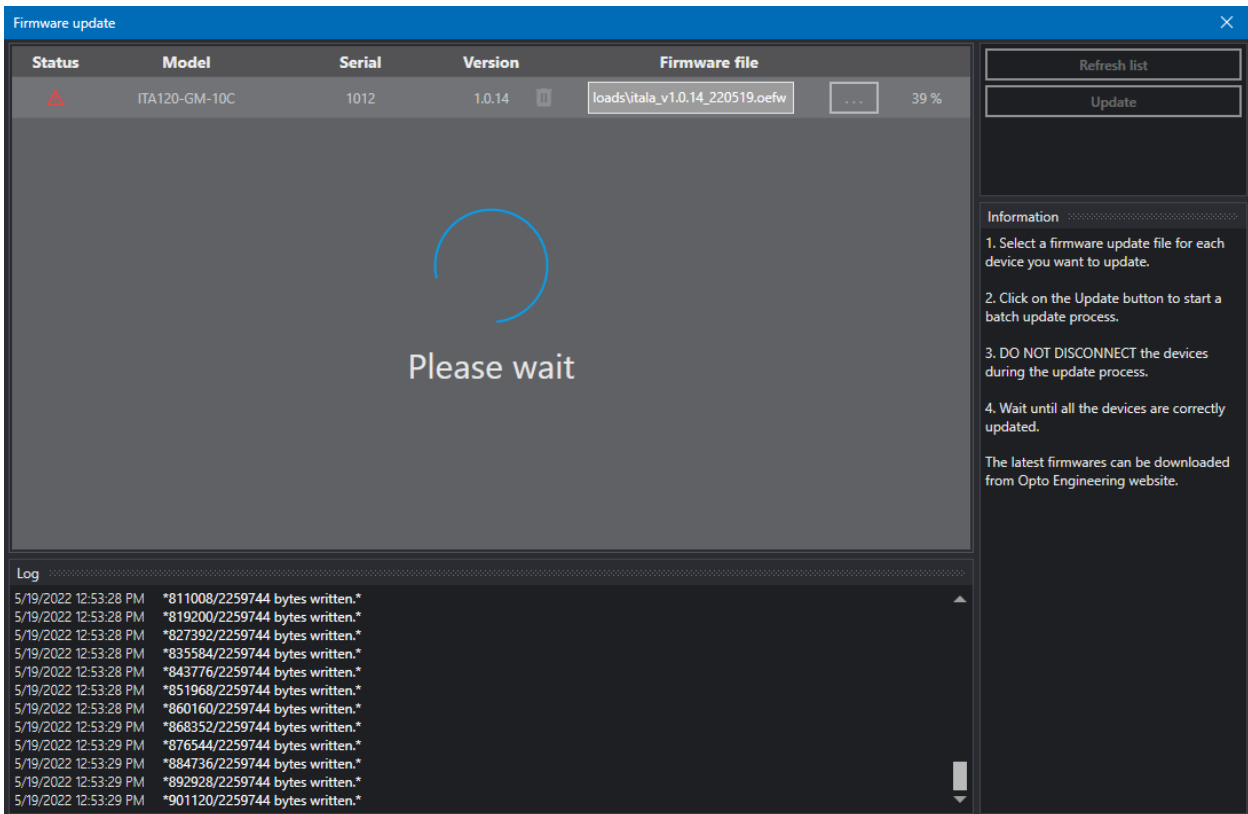

Figure 17: FW update in progress.
3. **Do not disconnect or power down** the devices during the update process (Fig.17).